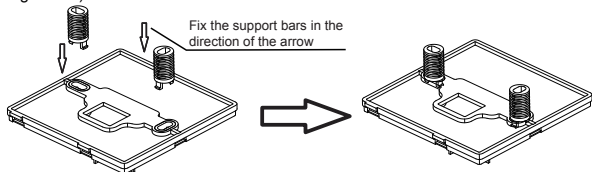

Figure 3.5
**3-3-3** Once the heights of the plastic support bars are adjusted, fix the bars on the rear cover. (see Figure 3.5)